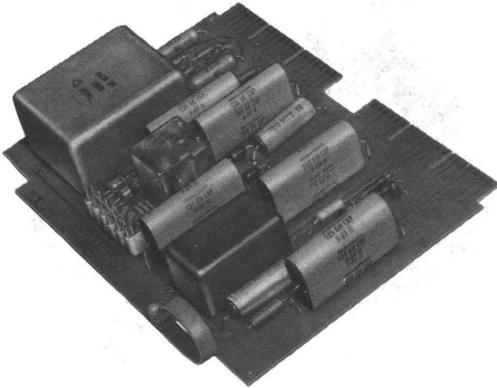

Fig. 12—112A Interconnecting Unit
**2.12 112A Interconnecting Unit**—An 8-inch circuit pack used to provide one-way direct-inward-dialing into a customer-provided PBX on a dial pulse basis. Intended to mount in the 607A panel. (See Fig. 12.)